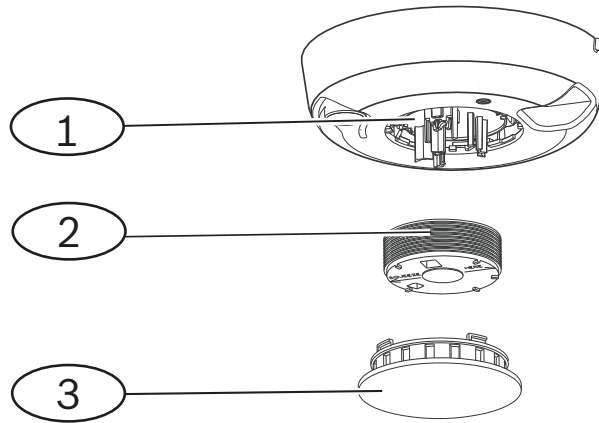

Figure 5.2: Detector parts
4. Squeeze the existing optical chamber where indicated (*Figure 5.2*) and pull it up and away from the sensor.